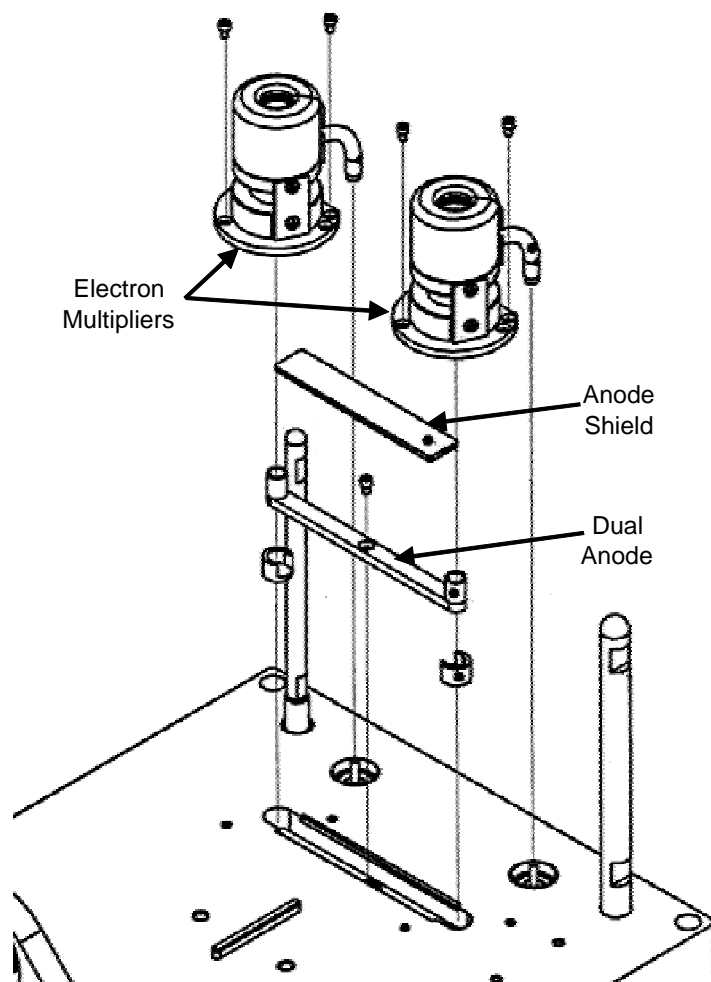

Figure 4-17. Electron multipliers and dual anode
4. With an Allen wrench, remove the two socket-head screws that hold the electron multiplier support to the top cover plate of the vacuum manifold. See Figure 4-17.
7. Remove the anode shield (Figure 4-17).